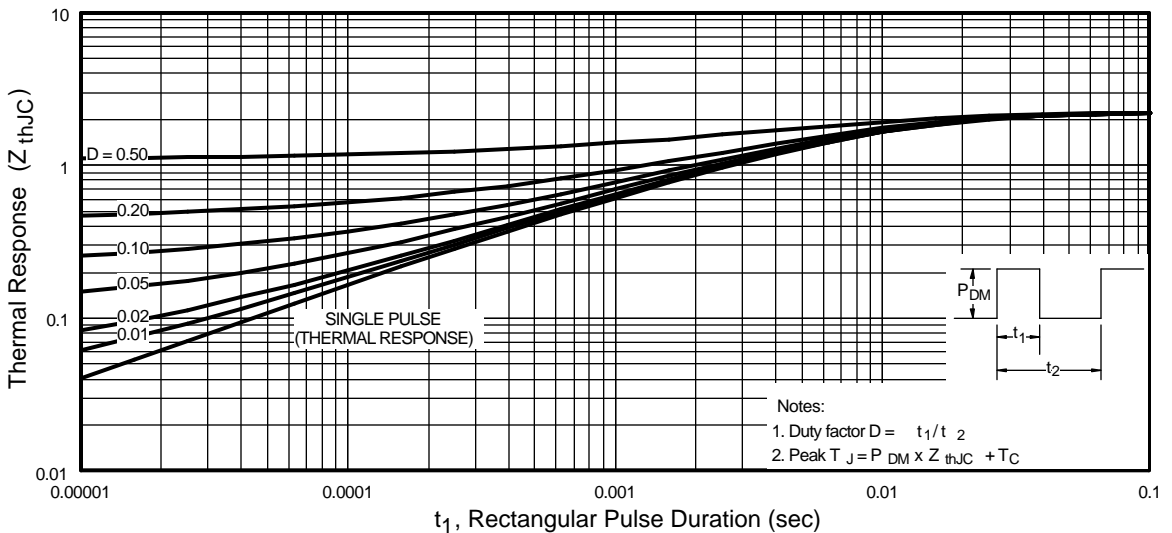

Fig 11. Maximum Effective Transient Thermal Impedance, Junction-to-Case
- ① Repetitive rating; pulse width limited by max. junction temperature. (See fig. 11)
- ② Starting $T_J = 25^\circ\text{C}$, $L = 3.2\text{mH}$